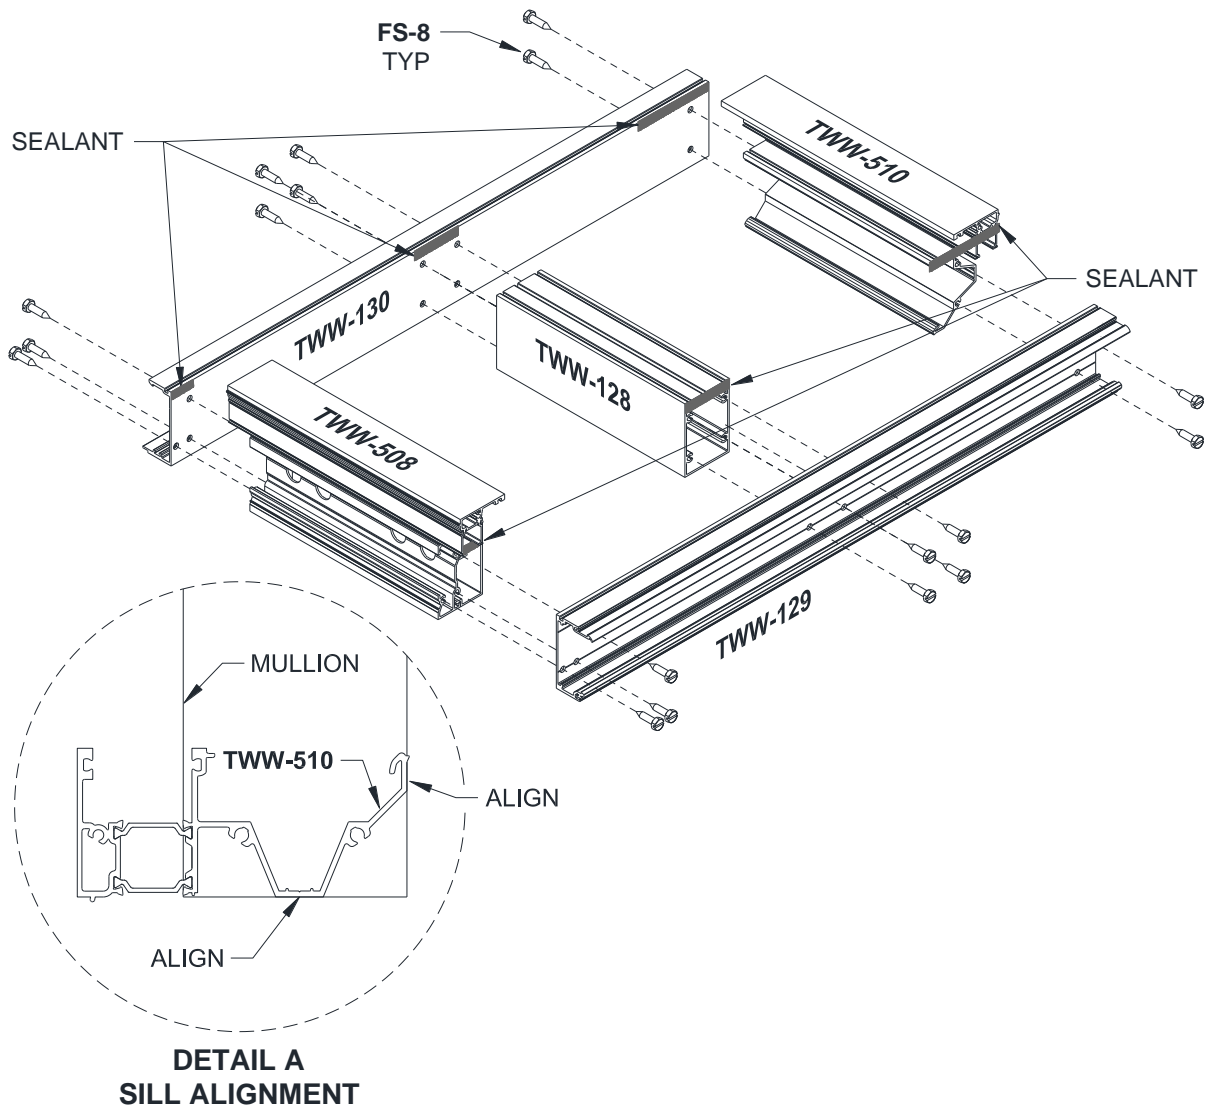

Figure 36: Pre-glazed SSG Assembly
- 12.3.6 To ensure a proper fit into the Sill Receptor, align Sill to Vertical at the interior edge and the bottom, as shown in *Figure 36, Detail A*.
- 12.3.7 Attach Horizontals to Verticals using **FS-8** fasteners, referencing *Figure 36*.